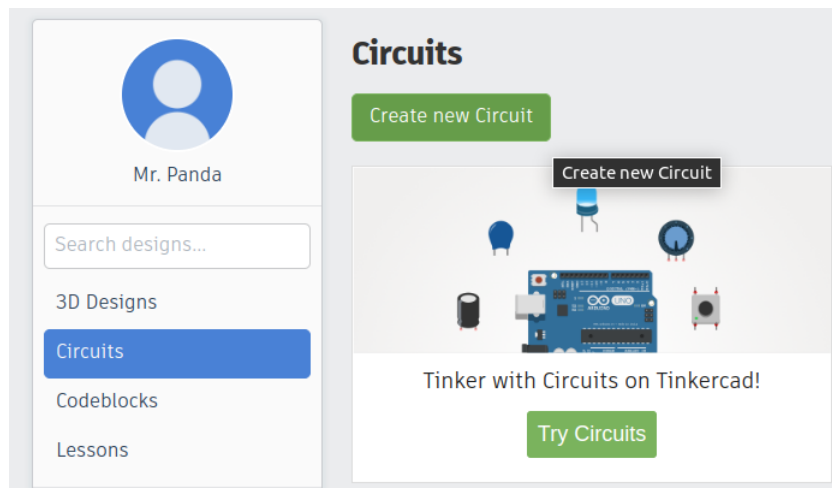

Figure 13.1: Create New Circuit
4. After that select **Circuits** from left and click on **Create new Circuit** as shown in Figure 13.1.